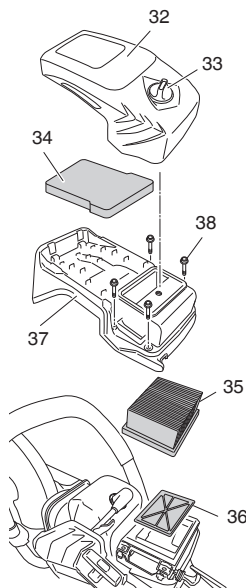

Fig. 31
Air filter (Fig. 31)
Spark plug (Fig. 31, 32, 33)
1. Remove cleaner box (B) (32) and cleaner box (A) (37). (Fig. 31)